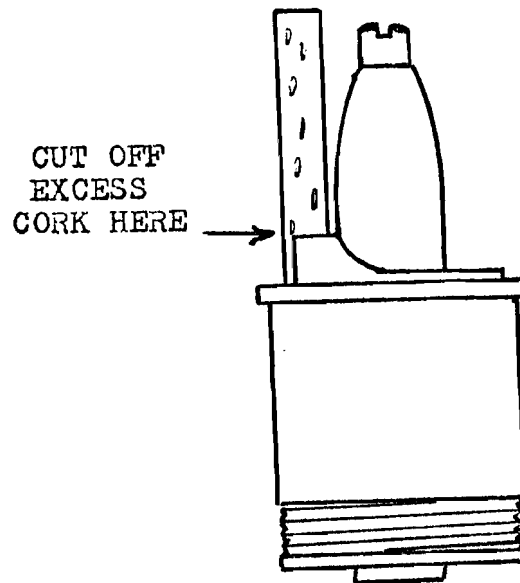

Figure 77
2. Push the cork into the cork groove in the stop plate (Figure 77).